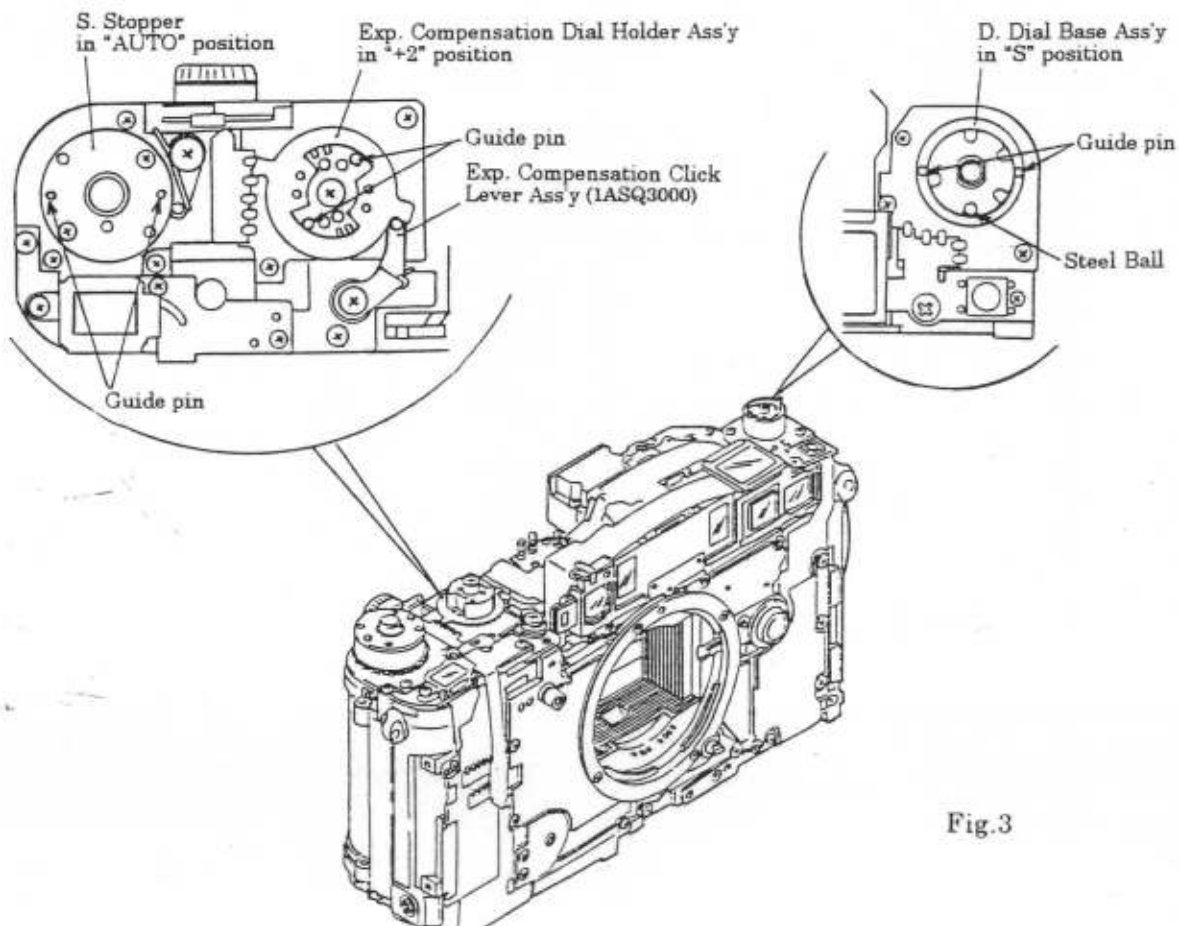

Fig.3
- 1) Set the S. Stopper (1AS23710) in the position as shown in Fig. 3.
- 2) Set the Exp. Compensation Dial Holder Ass'y (1ASR0000) in the position as shown in Fig. 3.
- 3) Set the D. Dial Base Ass'y (1ASN2000) in the position as shown in Fig. 3.